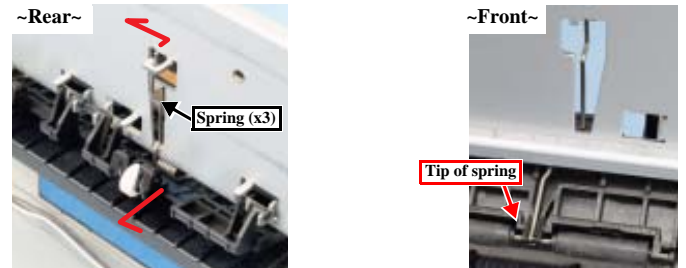

Figure 4-78. Removing the Springs
4. Remove torsion springs (x3) at the rear of the printer. (Fig. 4-78)
Install the springs properly, while paying attention to the tip position of each spring. (Fig. 4-78)